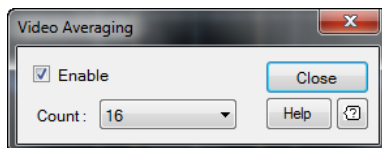

Figure 2-33 Averaging dialog
- 2 The Averaging dialog is displayed as shown in Figure 2-33.